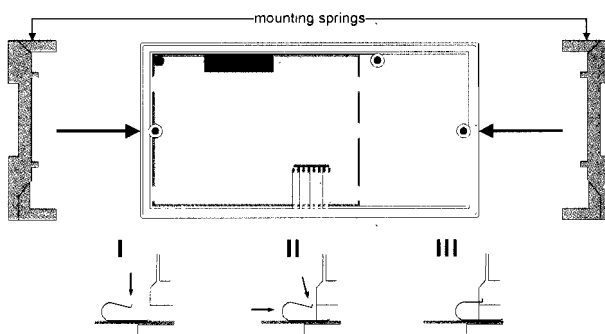

Fig. 14. Inserting the springs
5. Mount the springs in the three-step procedure as shown in Fig. 14.